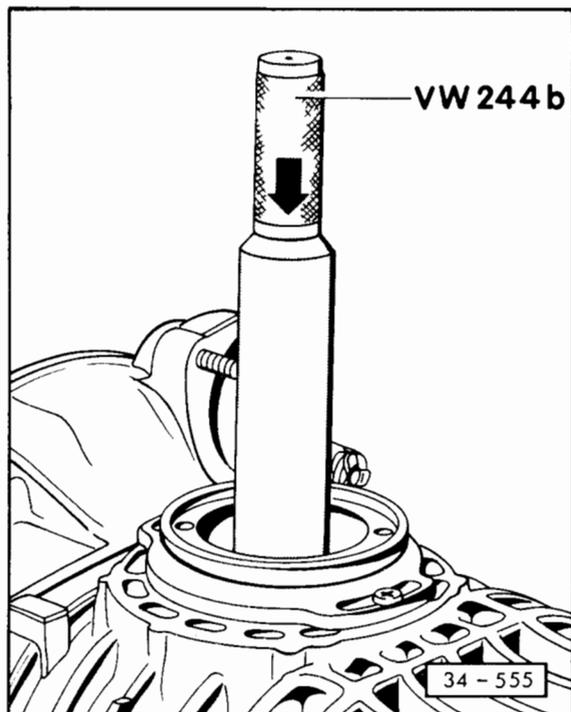

Fig. 8 Installing circlip
- Renewing, Installing – Fig. 8